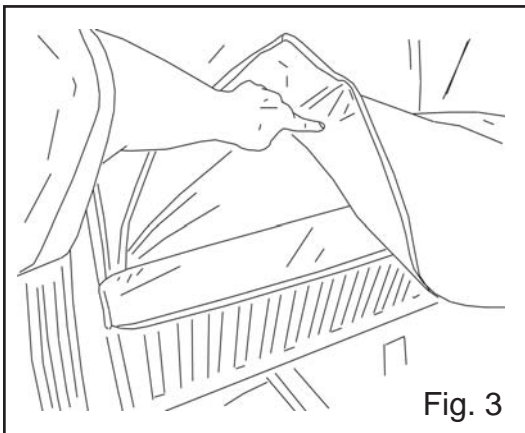

Fig. 3
- 3 Install rear pocket of liner on to compartment cover. (Fig. 3)